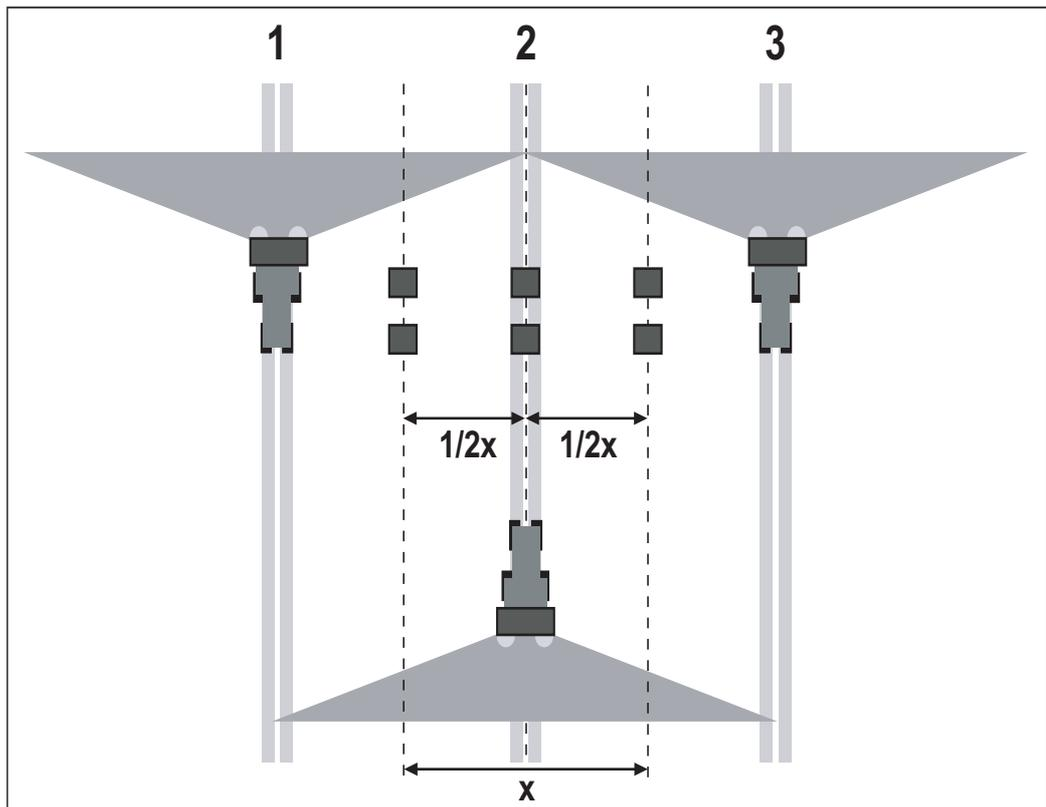

Figure 7.25: Layout for three passes
- Place two catch trays at a distance of **1 m** behind each other in the overlap zones and in the centre track (corresponding to figure 7.25).